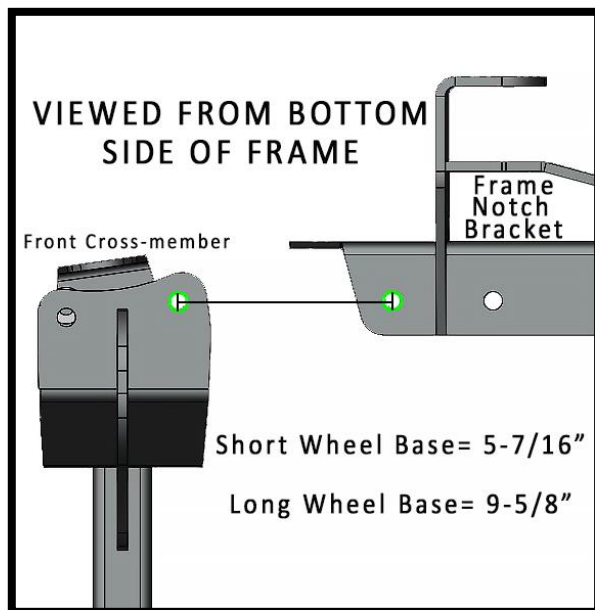

Figure 27
43. The front crossmember is located by mounting it the distance listed below. The top side measurement is from the factory cross-member rivet. If the bed has not been removed, reference the hole to hole length of the cross-member and frame notch bracket. See the measurements below to verify the crossmember mounting location. **(Figure 27)**